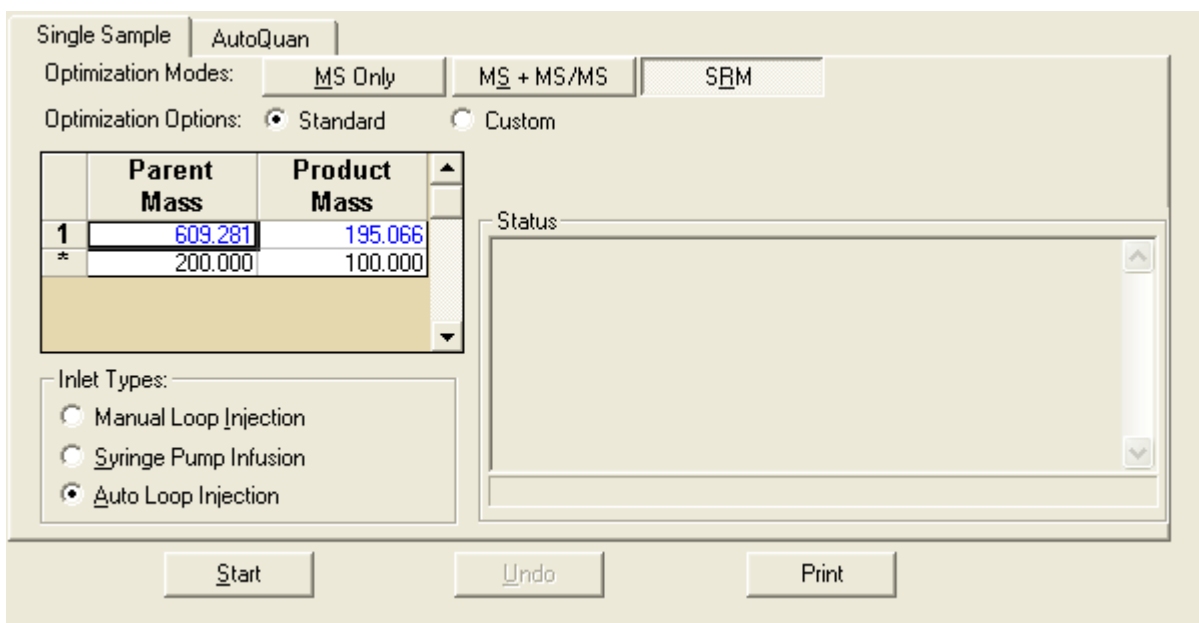

Figure 7-9. Compound Optimization view
- a. Select the Optimization Modes: SRM button to enable you to optimize a selected reaction. See Figure 7-9.